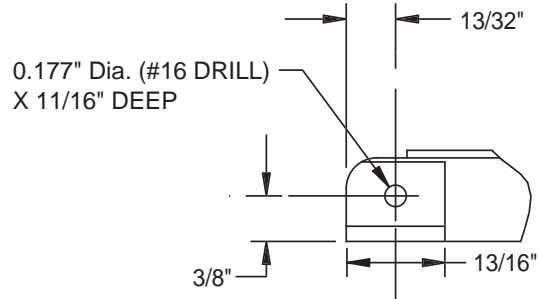

Figure 3A
2A. Route notch in top corner of panel as shown (**Figures 3A and 3D**). Notch is entire depth of panel, front to back.
4. Drill hole for upper door hinge (top of panel) (**Figure 3A**).